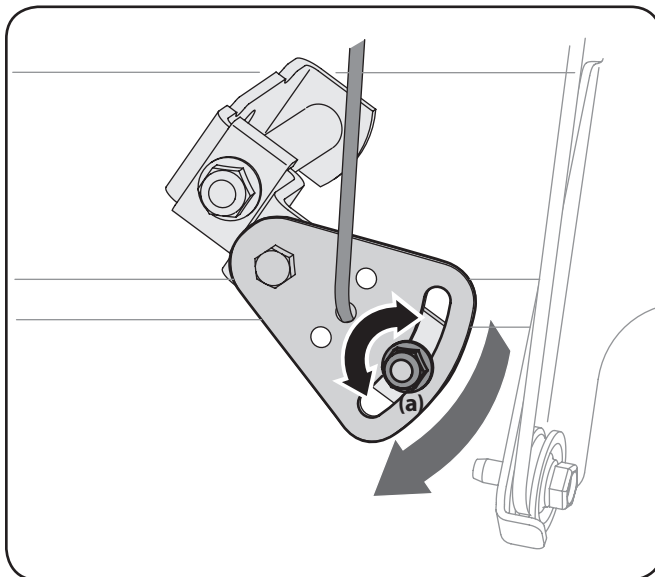

Figure 6-4
2. Loosen the hex nut (a) on the shift cable index bracket. See Figure 6-4.